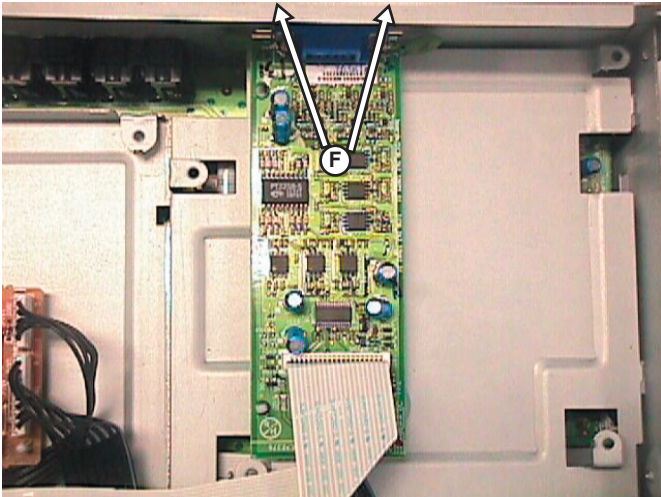

Figure 4-6
- 5) Loosen 2 screws (See Figure 4-6) to remove Interface Board.